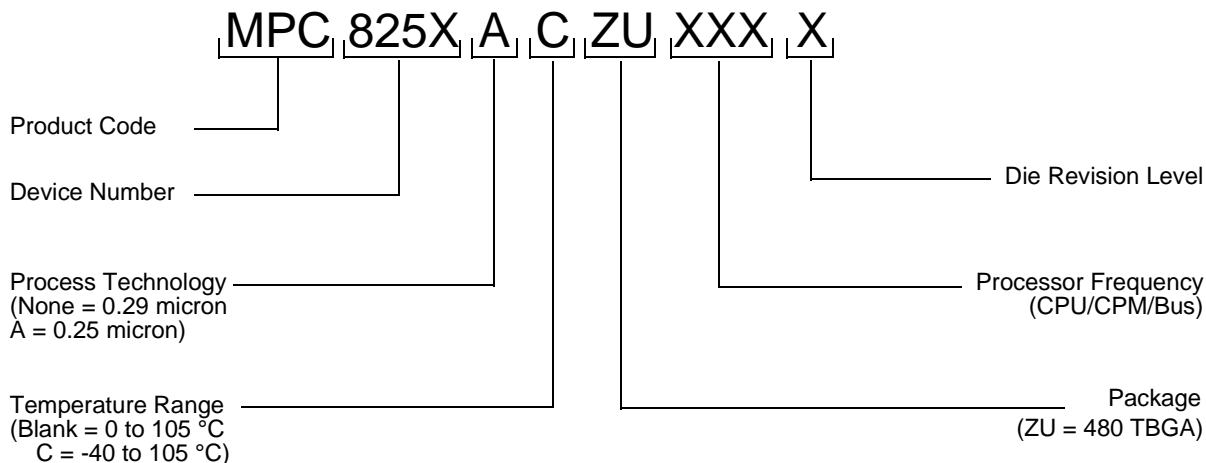

Figure 15. Motorola Part Number Key
Figure 15 provides an example of the Motorola part numbering nomenclature for the MPC8255. In addition to the processor frequency, the part numbering scheme also consists of a part modifier that indicates any enhancement(s) in the part from the original production design. Each part number also contains a revision code that refers to the die mask revision number and is specified in the part numbering scheme for identification purposes only. For more information, contact your local Motorola sales office.
0.1	<ul style="list-style-type: none"> <li>Note 2 for Table 4 (changes in italics): "...greater than or equal to 266 MHz, 200 MHz CPM..."</li> <li>Updated Figure 15</li> <li>Table 14: footnotes added to pins at AE11, AF25, U5, and V4.</li> </ul>